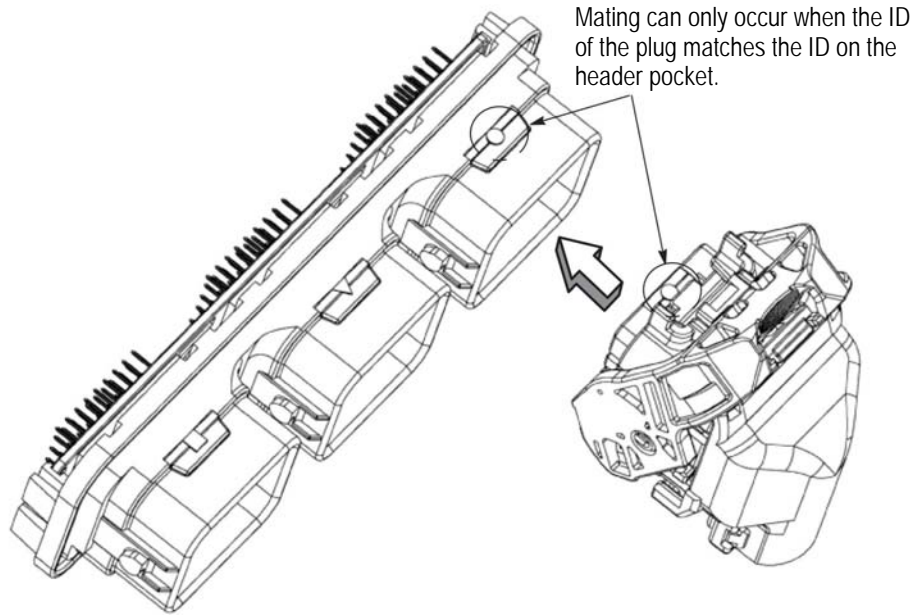

Figure 11
5. CONNECTOR MATING AND UNMATING (Figure 11)
4. Insert the female housing directly into the male housing, as shown in Figure 11. The connector is at the pre-lock position when the female housing cannot be inserted further.